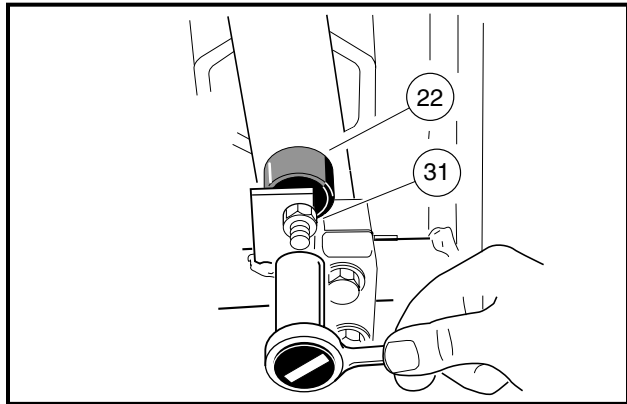
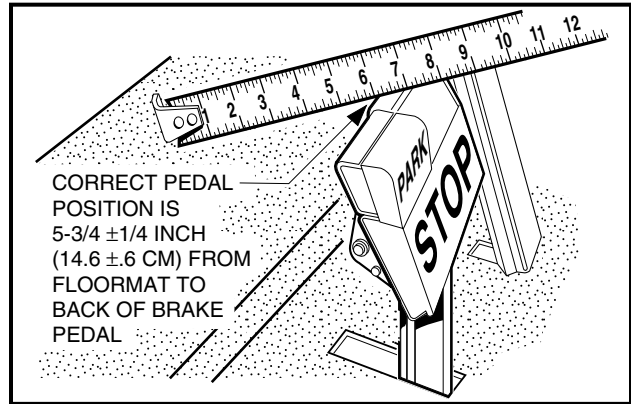

Figure 5-2 Adjust Brake Pedal Height
Figure 5-3 Measure Brake Pedal Height
- 1.4. Loosen the brake stop jam nut (31), then relieve pedal pressure on the stop by pushing down slightly on the pedal. Next, adjust the brake stop bumper (22) up or down (Figure 5-2, Page 5-3). Adjusting the bumper upward decreases distance between pedal and floorboard. Adjusting the bumper downward increases distance between pedal and floorboard. Proper brake pedal height is 5-3/4 ± 1/4 inch (14.6 ± 0.6 cm) (Figure 5-3, Page 5-3).
- 1.5. Tighten the jam nut (31) to 8 ft-lb (9.5 N·m) (Figure 5-2, Page 5-3).